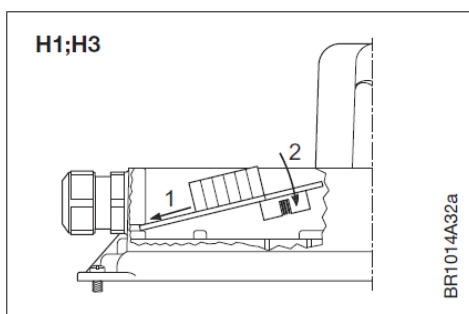
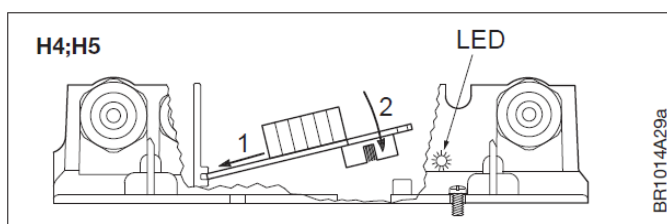

Fig. 9-3
Fig. 9-5
- Fit the Relay-Module by gently inserting the circuit board at an angle into the 3-point holder in the space between the input terminals and the motor output terminals (see fig. 9-3 for H1 and H3, see fig 9-5 for H4 and H5).